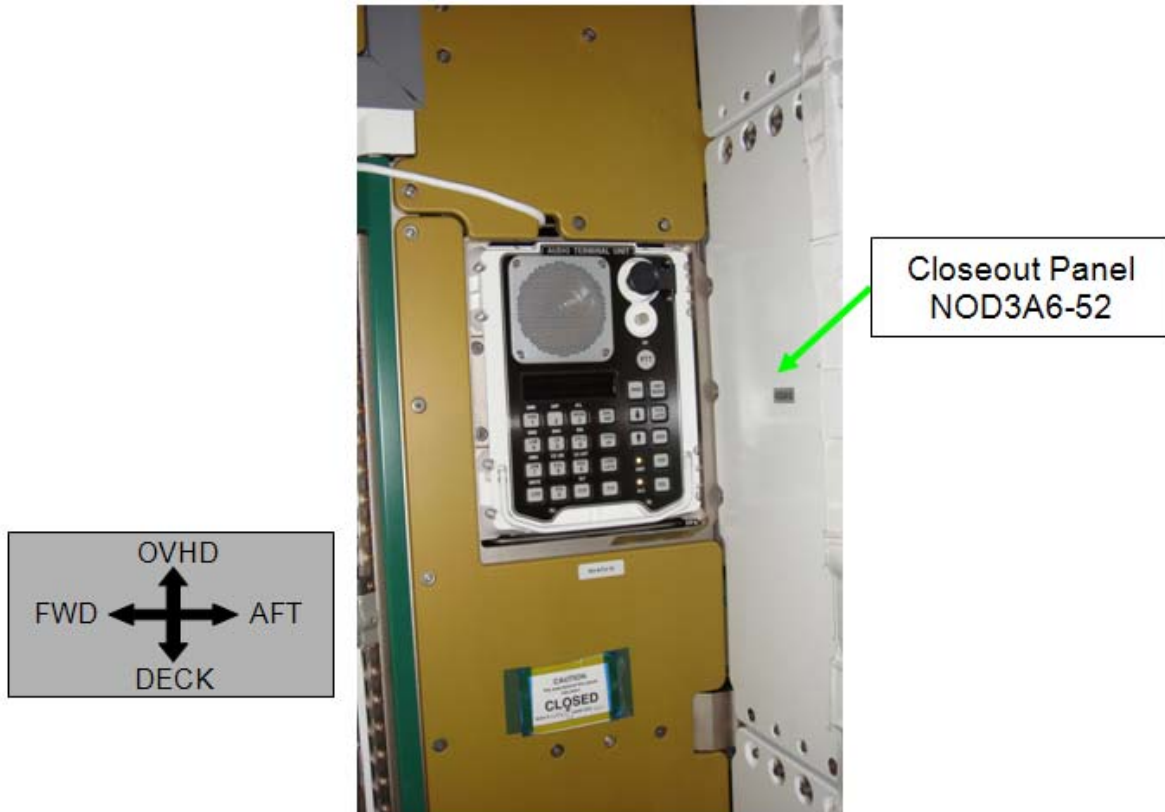

Figure 11.- Aft Portion of Node 3 Starboard Endcone (looking Starboard).
- 18.1 Remove Closeout Panel NOD3A6-52, fasteners (four) (Ratchet, 3/8" Drive; 5/32" Hex Head, 3/8" Drive). Refer to Figure 11.